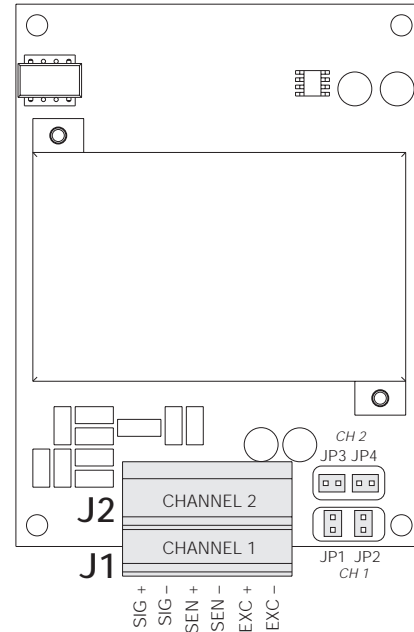

Figure 2. Dual-Channel A/D Card
6. Next, remove connector J1 from the A/D card. The connector plugs into a header on the card (see Figure 2). Wire the load cell cable from the load cell or junction box to connector J1 as shown in Table 1.